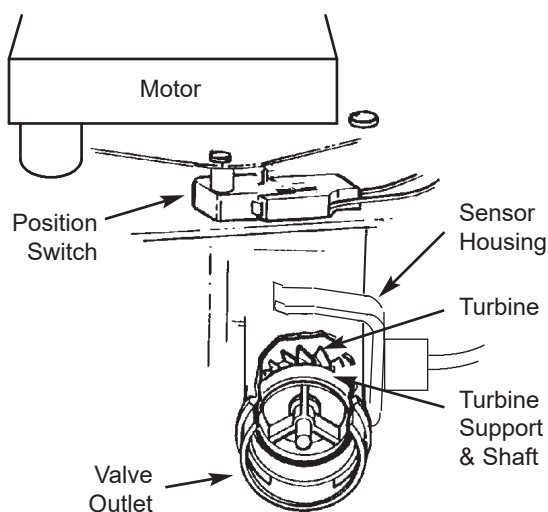

FIG. 31
**NOTE:** If you don't get a reading in the display with faucet open, pull the sensor from the valve outlet port. Pass a small magnet back and forth in front of the sensor. If you get a reading in the display with the magnet, unhook the in and out plumbing and check the turbine for binding (See Figure 31).